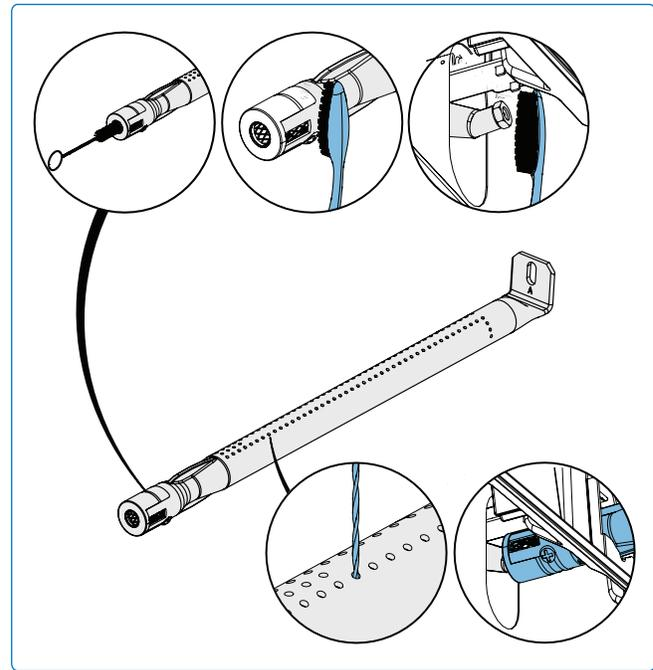

Fig. 26
- Clean the inside of the burner using a flexible venturi tube brush or, for delicate areas, a soft bristled brush to gently remove debris (**Fig 26**).